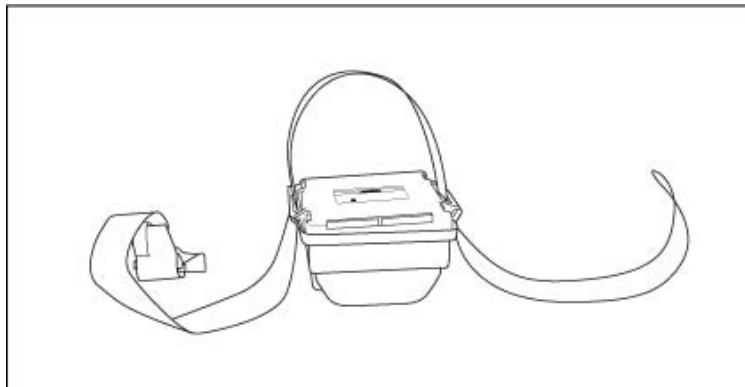

Fig. 4
1. Pull the belt through the belt retainers to form a loop, which is clear of the PAPR unit. (Fig. 4)